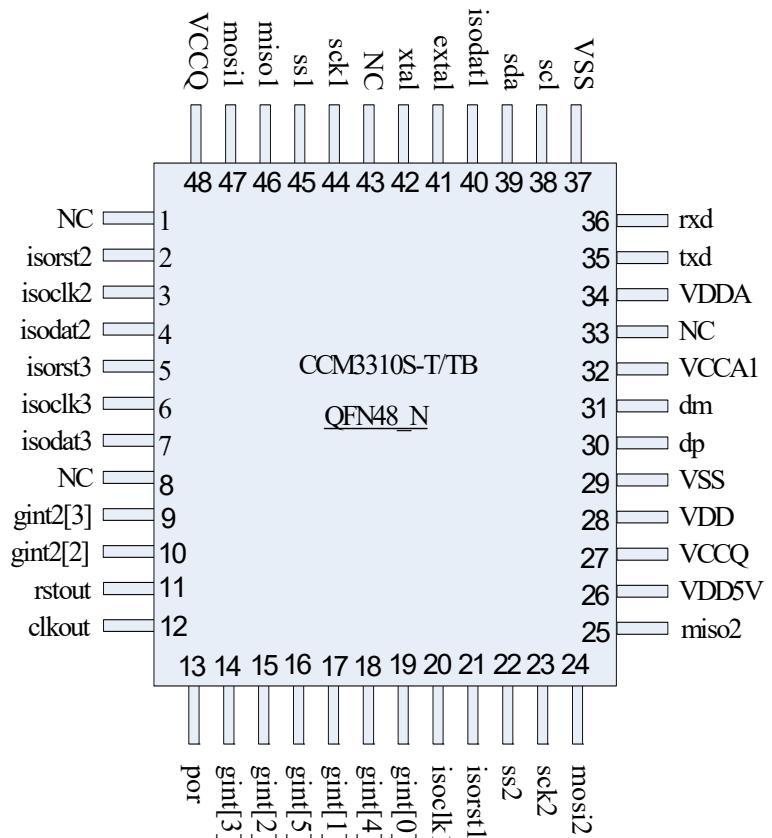

Figure 2-3 QFN48-N Package
- **Figure 2-3** for QFN48_N package